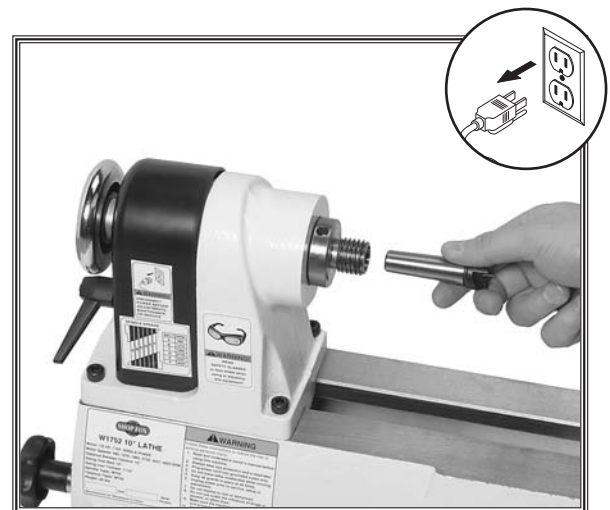

Figure 10. Inserting spur center into spindle.
2. Insert the tapered end of the center into the spindle, and push it in quickly and firmly (see **Figure 10**).